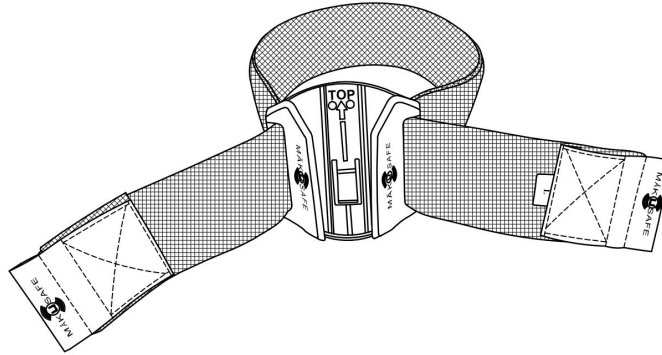

Figure 3
1. Loosen the armband with the holster attached. (Figure 3)